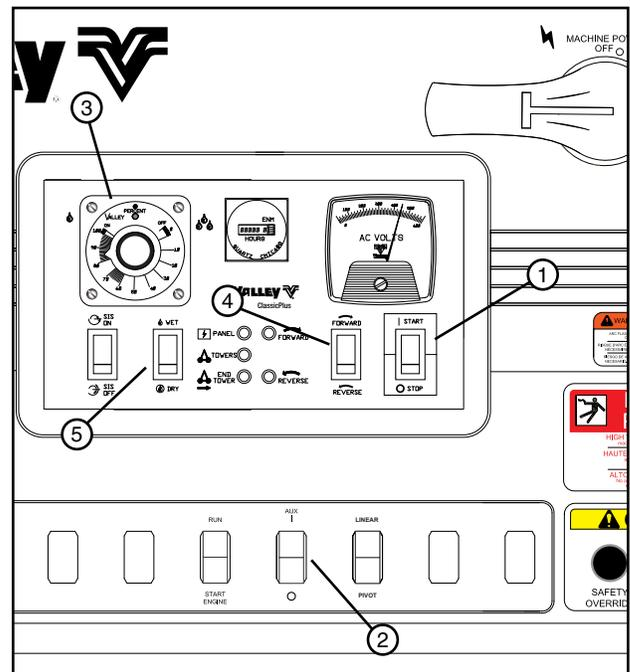

Figure 79-1 1. Start/Stop Switch 4. Forward/Reverse Switch
1. At the control panel, switch the START/STOP rocker switch to the STOP position. See Figure 79-1.
2. Switch the WATER ON/OFF rocker switch to the OFF position. See Figure 79-1.
3. Switch the PIVOT/LINEAR rocker switch to the pivot mode. See Figure 79-1.
4. Set the FORWARD/REVERSE switch for the desired direction of travel that the machine will move in when started. See Figure 79-1.
5. Set the percent timer to the desired percentage. See Figure 79-1.
6. Switch the START/STOP rocker switch to the START position, to start the machine in the pivot mode. See Figure 79-1.
7. When the machine reaches the end of pivot zone, switch the START/STOP rocker switch to the STOP position. See Figure 79-1.
8. Switch the PIVOT/LINEAR rocker switch to the linear mode. See Figure 79-1.